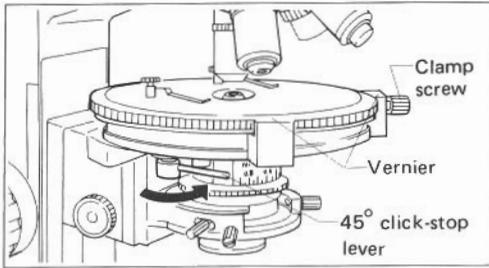

Fig. 19
- The 45 $^\circ$ click-stop device comes to act at every 45 $^\circ$ rotation, starting from a position where the click stop lever has been pulled toward the operator, giving convenience in switching over the observation from a crossed Nicols position to a diagonal position. (Fig. 19)